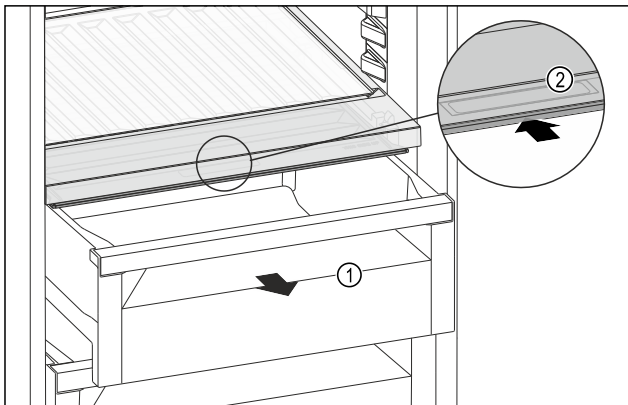

Fig. 174
- Pull out the drawer Fig. 174 (1).
- Grasp the recessed grip Fig. 174 (2) on the compartment lid and push the compartment lid backwards at the same time.